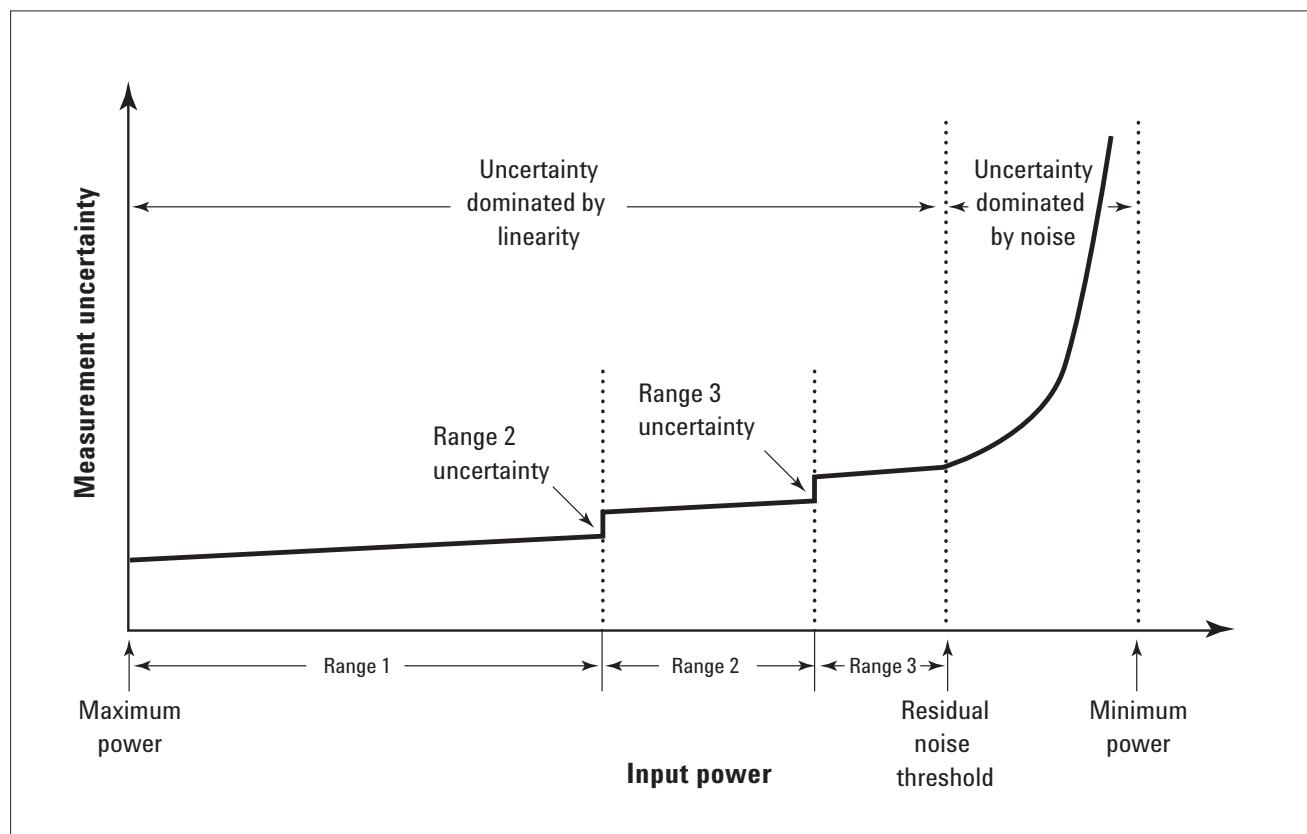

Figure 1. Measurement uncertainty vs. input power relationship
1. In absolute accuracy of TRFL measurements, the cumulative error is the error incurred when stepping from a higher power level to the Residual Noise Threshold power level. See Figure 1 for a graphic. In order to calculate the cumulative error, you must determine the Residual Noise Threshold power and determine the Power Meter Range. The formula to calculate the cumulative error is: $\pm(\text{Power Meter Range Uncertainty} + 0.005 \text{ dB}/10 \text{ dB step})$. For example: the power sensor is Option 504, starting power is 0 dBm and power will be stepped to -120 dBm. Therefore starting power falls in the Power Meter Range 2-4 and the uncertainty is $\pm 0.190 \text{ dB}$, as indicated in the table on the next page. The Residual Noise Threshold Power is -106 dBm at IFBW of 10 Hz. This is calculated per the Minimum Power specification in the table on the previous page. Assume no preamp is installed, and that the measurement frequency is 10 MHz to 3 GHz. The Residual Noise Threshold Power is $-136 \text{ dBm} + 30 \text{ dB} = -106 \text{ dBm}$ using the formula on this page. The cumulative error is then $\pm(0.190 \text{ dB} + 106/10 \times 0.005 \text{ dB})$, or $\pm 0.245 \text{ dB}$, where x is a ceiling function that means the smallest integer not less than x , which is 11 in this example.